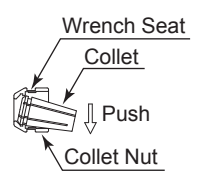
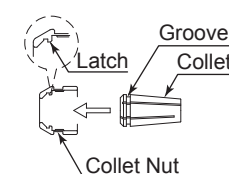
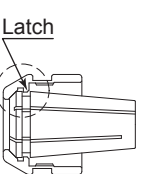

Fig. 7
Fig. 8
Fig. 9
- The collet and collet nut are secured by a groove in the collet and a flange in the collet nut. To remove the collet hold the collet nut in one hand and push diagonally down on the collet. The collet should be released. (Fig. 7)
- To install the collet, hold the collet at a slight angle, and insert it into the collet nut (Fig. 8). Press the collet in the collet nut by positioning the collet in the collet nut and pressing down on flat surface (Fig. 7). Be sure to fully engage the latch inside the collet nut into the groove on the collet's outer circumference area (Fig. 9).